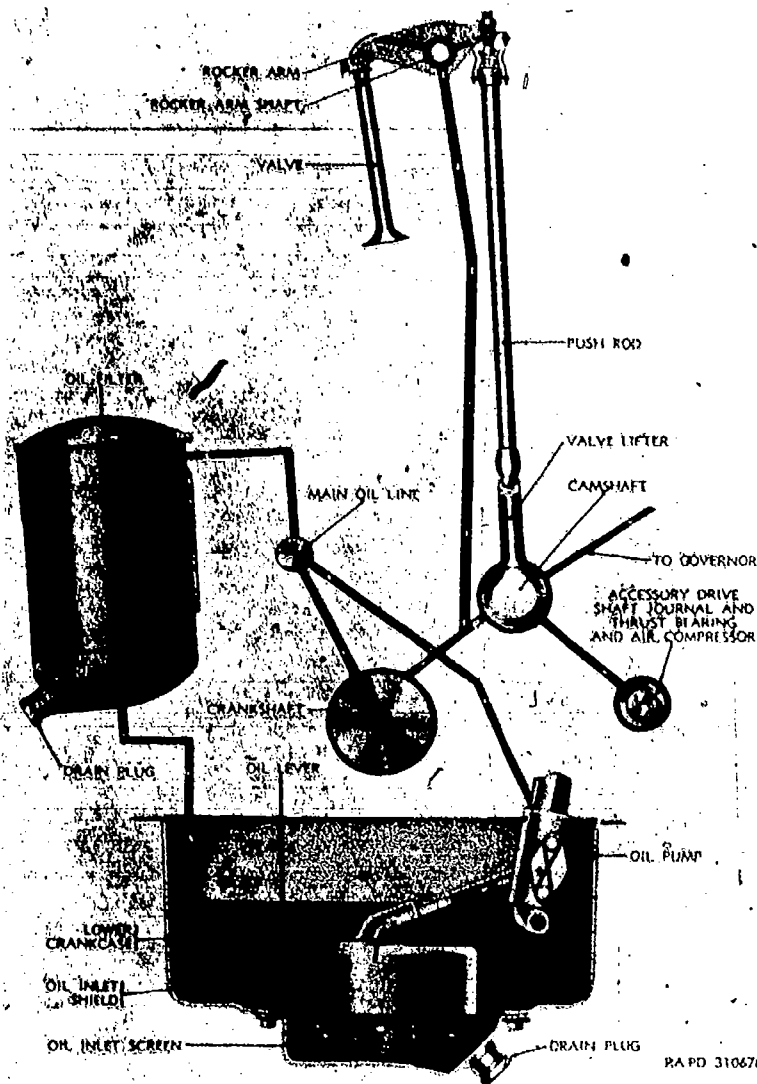

Fig 2-16. Lubrication system of in-line and V-type engines.
(1) Purpose. Engine lubricating oils have a fourfold purpose: to reduce friction, to assist in cooling the engine, to clean the engine parts, and to prevent blowby in the engine cylinder.
- (2) **Components and functioning (fig 2-16).** Most modern engines employ a full-force feed lubrication system. The oil supply is carried in the oil pan from which it is forced through a network of drilled passages, tubes, and pipes to the valve mechanism, crankshaft, camshaft, connecting rods, and piston pins.